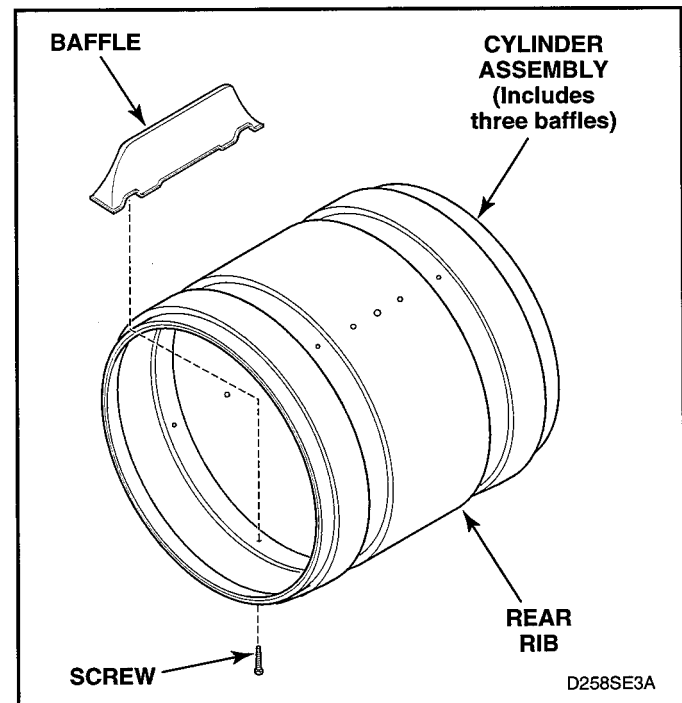

Figure 5-28
- Baffles - Remove screws holding baffles to cylinder. See figure 5-28.